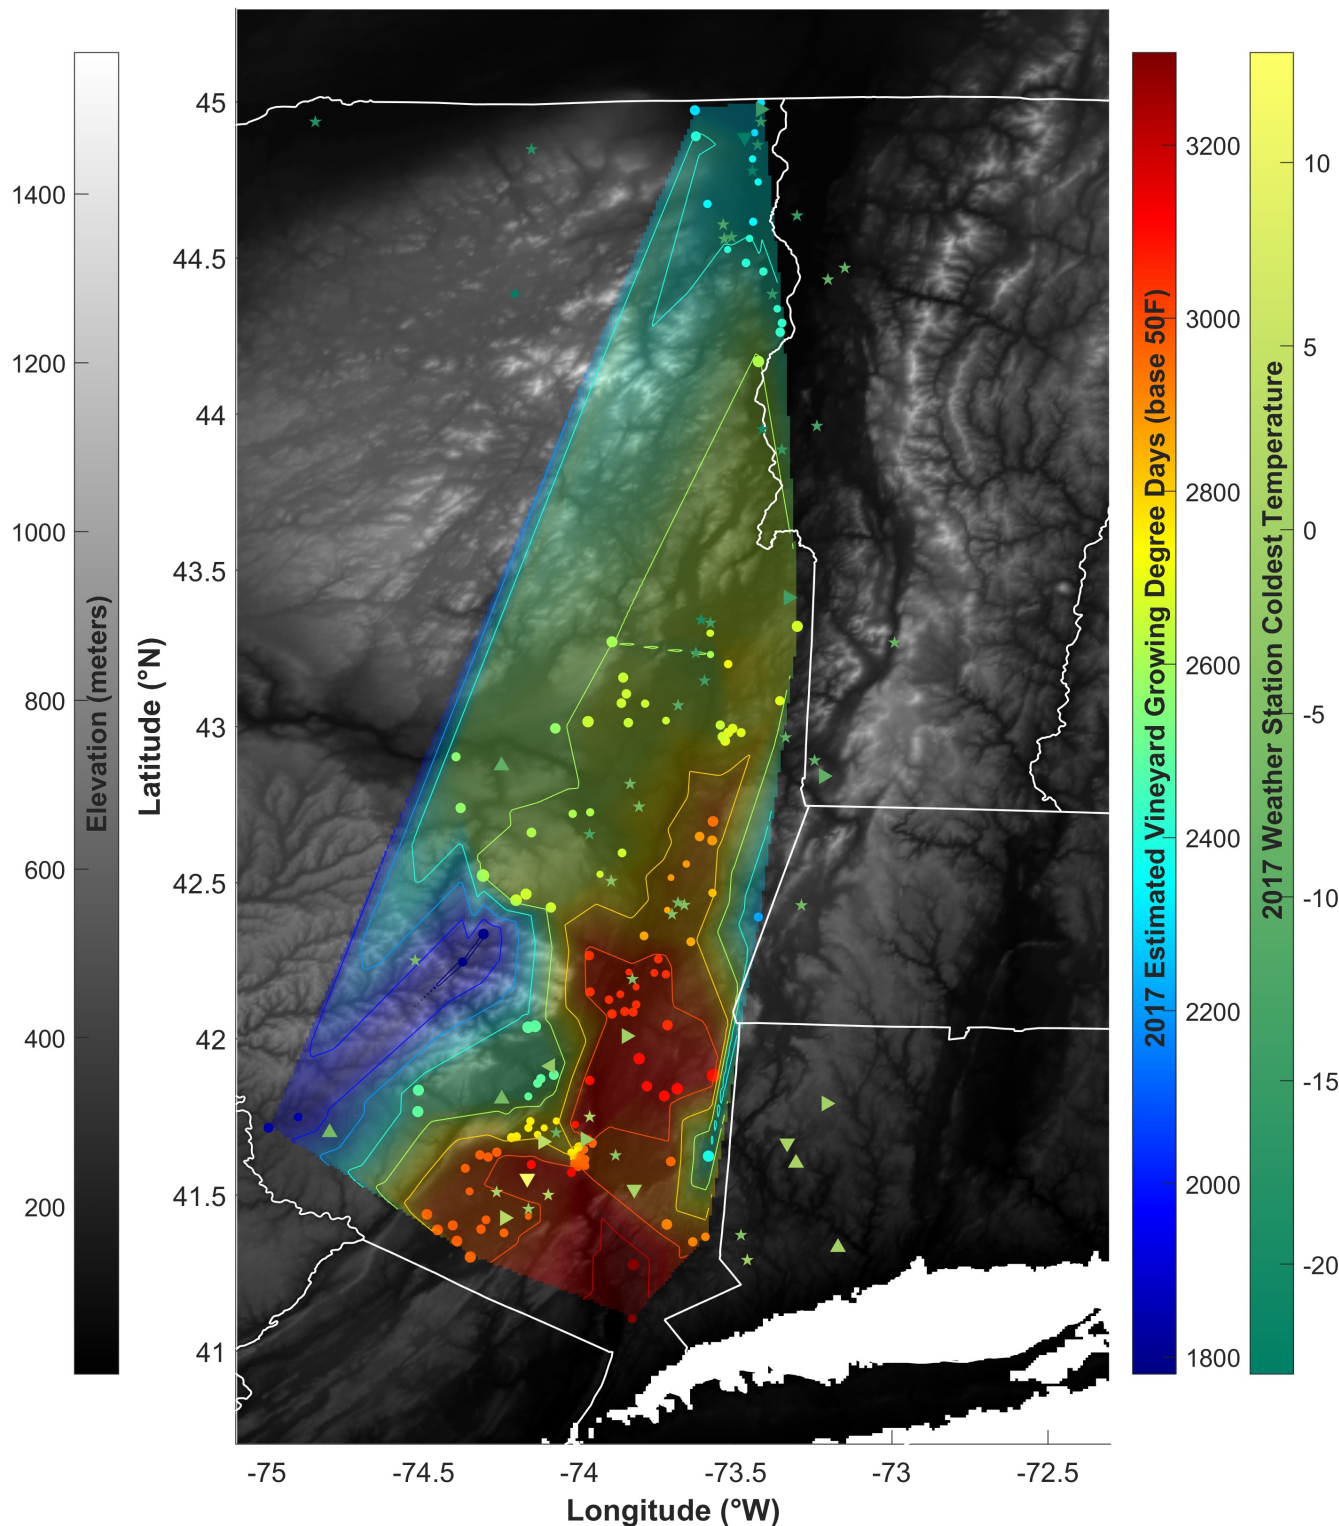

Figure 1 - Eastern NY Vineyard Inventory
***Figure 1 is a map of all of eastern NY vineyards (excluding Long Island) that I know about.*** The symbology is a little complicated because I tried to fit a lot of information onto one map, so let's start with a walkthrough of what is presented.